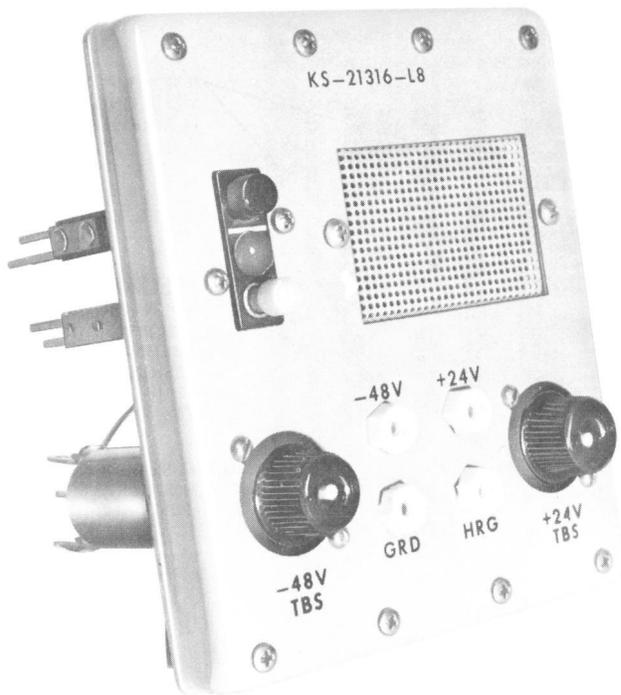
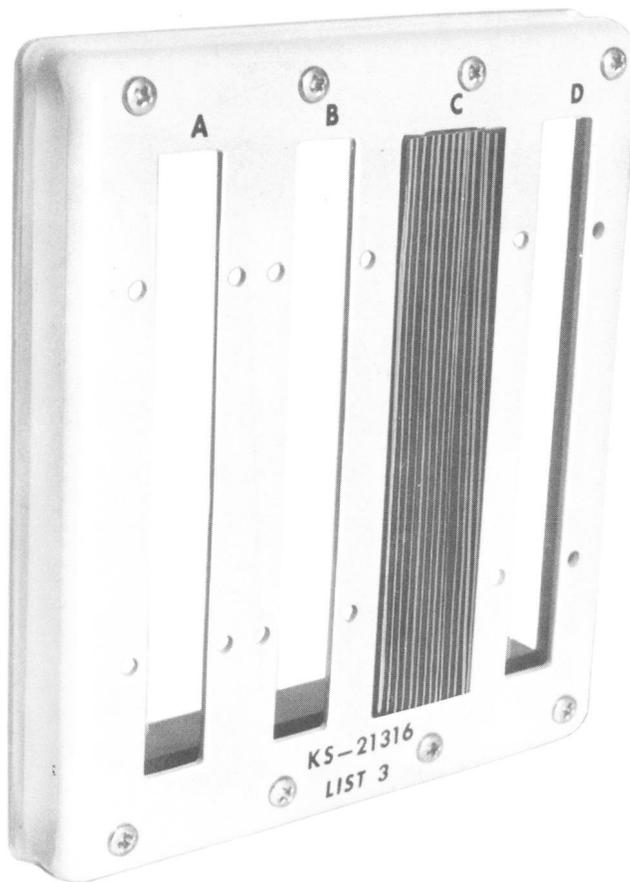

Fig. 12—KS-21316-L8; ED-6C110-10, G28 Test/Talk Panel
Fig. 13—KS-21316-L3; ED-6C110-10, G23 Test/Talk Panel
3.05 The test/talk panels for COSMIC framework are ED-6C110-10, G28 and G23. Figure 12 shows the G28 panel and Figure 13 shows the